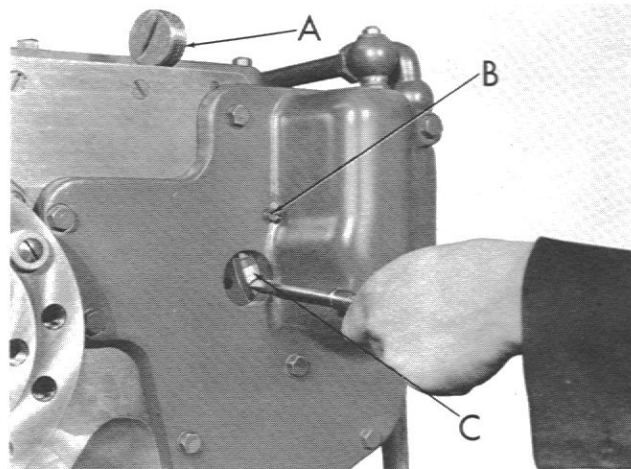

Figure 32 - Brake Adjustment
2. The free movement at the extremity of the forward and reverse lever when in the brake position, should be approximately $3/4$ to 1 inch in length. This free movement is determined by adjusting nut C as shown in figure 32.
- b. If the brake is ineffective when the free movement is correctly adjusted, it may be caused by a weakened spring or by worn brake discs. If a new spring fails to improve braking, install a set of new brake discs. (See key 14, plate 5, also key 32 and 33, plate 4.)
2. Remove threaded plug A located in the end of the headstock near the spindle face. (See figure 32.)
3. Withdraw the small locking screw B shown in figure 32 on 2-1/2" and 3" spindle headstocks. 3-1/2" and 4-1/2" spindle headstocks have a spring loaded pin inside plug A. Withdraw this pin with a pair of pliers and proceed as in step 4.
- a. Insert a screw driver into one of the slots in adjusting nut C (shown in figure 32) and turn the nut clockwise.